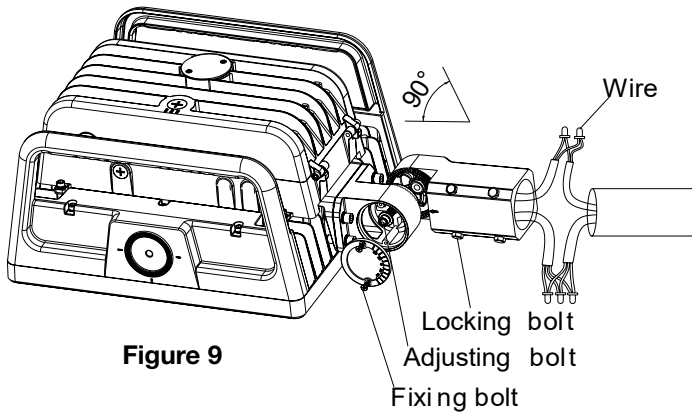
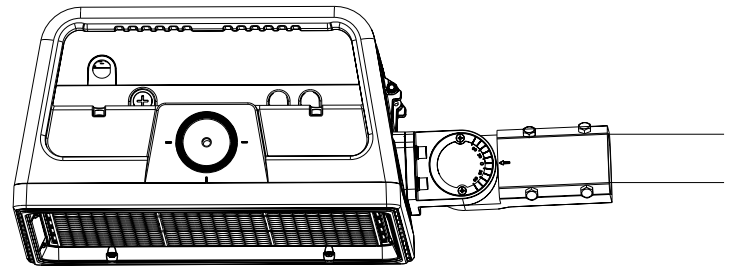

Figure 9
Figure 10
1. Loosen the four (4) locking bolts on the slip fitter, connect the wire correctly, and put the wire into the pole. Then fasten the locking bolts between the slip fitter and the pole (Figure 9).
2. Loosen the fixing bolts and adjusting bolts, align the fixture to the required angle. Tighten adjusting bolt and fixing bolts after the angle is confirmed (Figure 10). Notice: Adjustable angle is 0-90° (Figure 9).